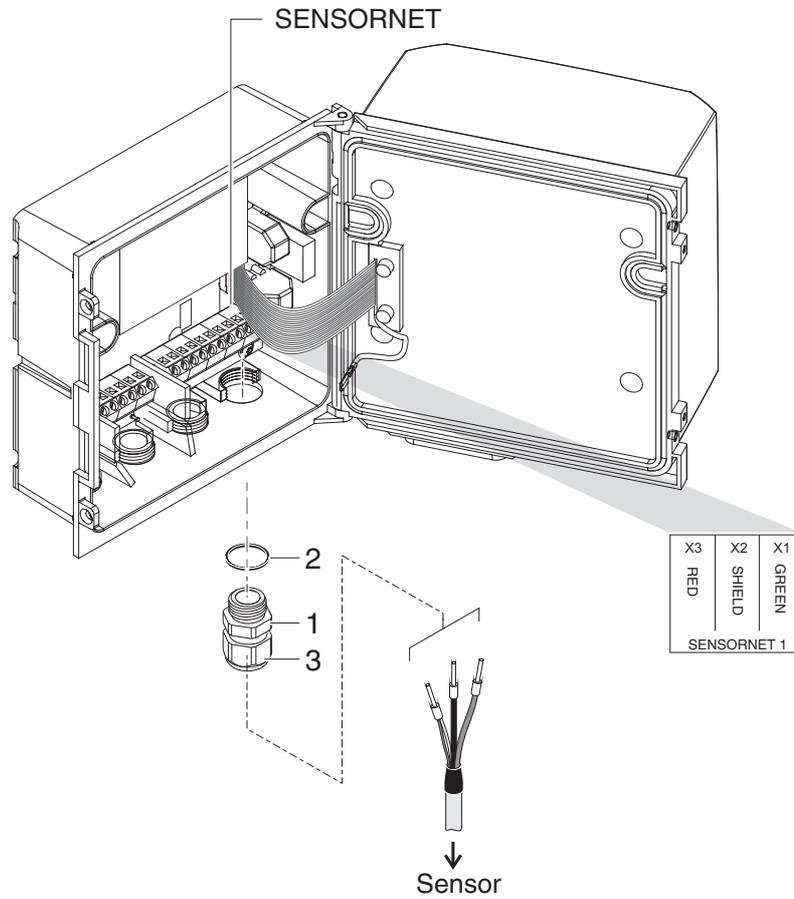

figure 3-16 Connecting the cable (example DIQ/S 281CR2)
- 2     Screw the cable gland (pos. 1 in figure 3-16) with the sealing (pos. 2) into the housing at the mounting position for the SENSORNET connection (see label on the bottom of the housing)
- 3     Loosen the cap nut (pos. 3 in figure 3-16).